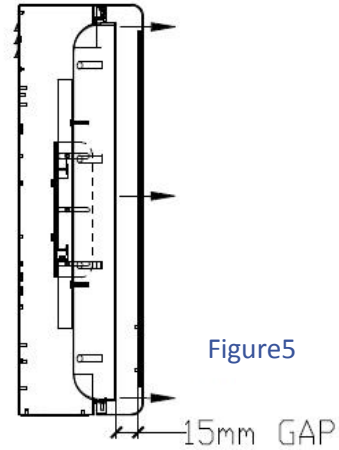

Figure5
STEP 10: Close the unit and check that a gap of at least 15mm exists between the display and the screen of the LCD enclosure (Figure5).